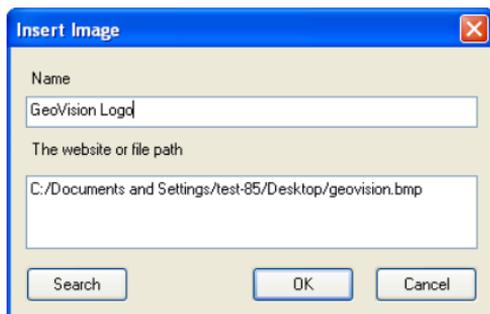

Figure 5-35
5. If you want to add a web link to describe the place, click **Insert Syntax** and select **Hyper Link**. The dialog box similar to Figure 5-35 appears. Name and enter a web address.